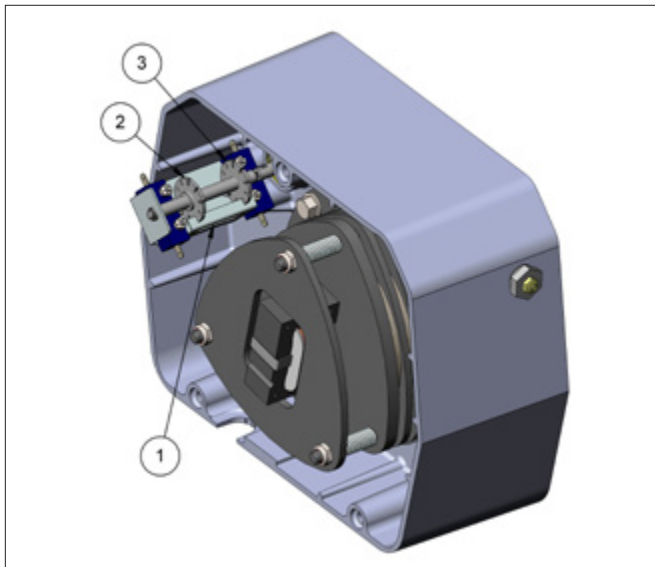

FIGURE 5-1. LIMIT SWITCH ADJUSTMENT
Limit switches are provided to protect the hoist against damage resulting from overtravel. For easy identification the upper (No. 2, Figure 5-1) and lower (No. 3, Figure 5-1) limit switch adjusting nuts are colored brass and zinc respectively. Each limit switch nut has ten slots for adjustment, and the increment of adjustment is such that one slot is equivalent to one link of chain travel. Care should be exercised when adjusting either limit of travel. When a geared type limit switch is furnished (long lift hoists) each adjustment is equal to 3 links of chain, or 30 links per revolution.
3. With a screwdriver, pry the spring guide plate (No. 1, Figure 5-1) out of the slots in the colored limit switch nuts (Nos. 2 and 3).
- With a screwdriver, push the spring guide plate (No 1. Figure 5-1) out of the slots in the limit switch nuts. Turn the brass slotted nut (2) back to about the center of the threaded screw DO NOT DISCONNECT THE WIRES FROM THE LIMIT SWITCHES.